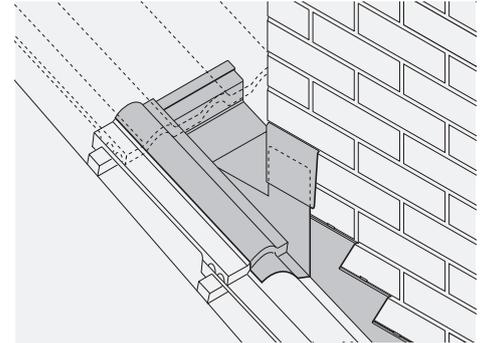

Fig. 31 – Back gutter
- 4 Dress upper edge of lead over tilting fillet and turn it back to form a welt (Fig. 31).